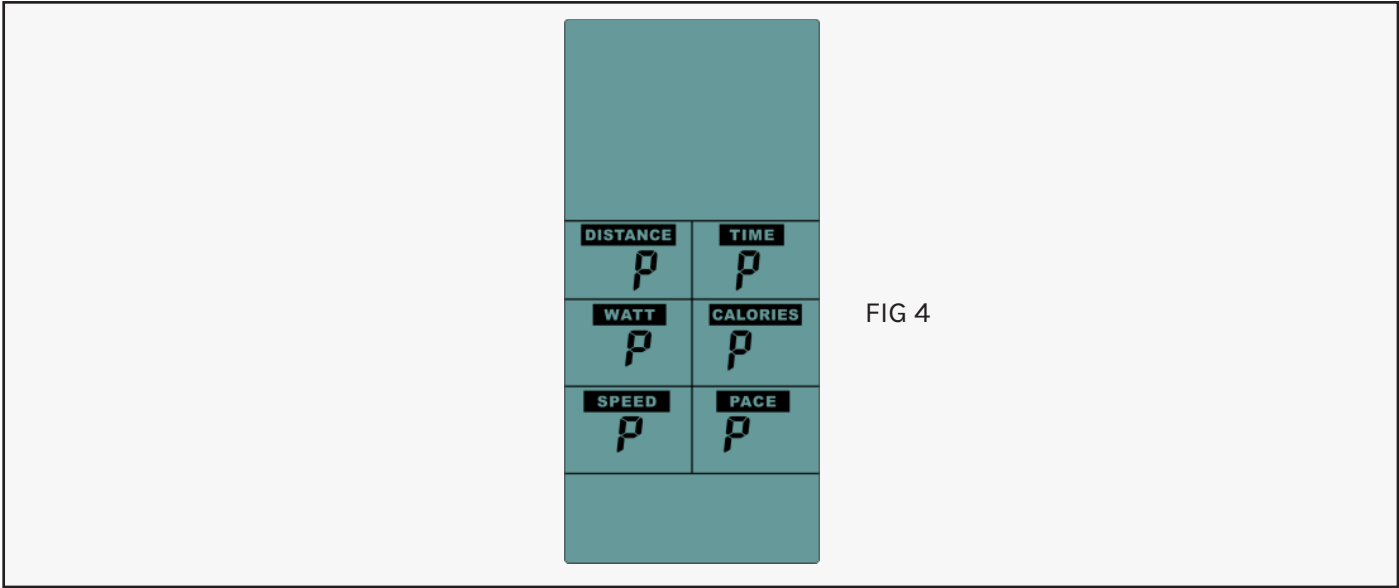

FIG 4
1. When START, press "START" button one time, enter into Break mode with buzzer sound 0.5s by every 30s. Computer still display all functions ,but LCD windows display "P". Buzzer will sound for 1s and enter into standby mode after broke with 5 Min, then press "START" to continue. (FIG 4)